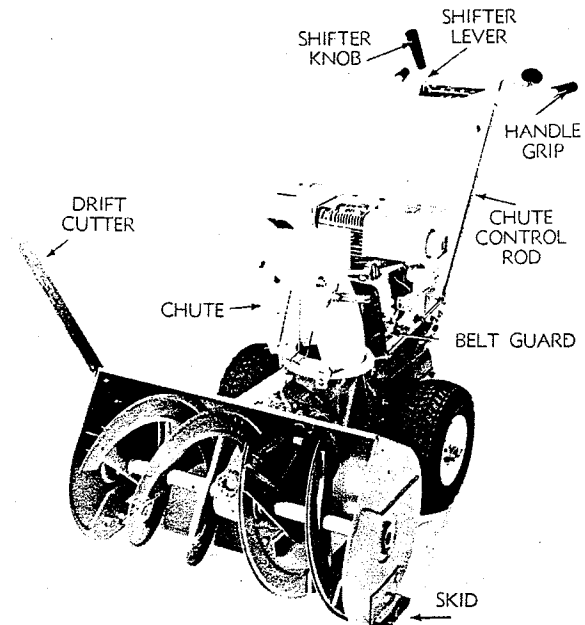

FIG. 3
2. Slide chute control rod through hole in top part of handle bar shroud (Fig. 3). Secure rod to universal with special stainless cotter pin (Fig. 2). (Red or blue).
4. Attach the skids (Fig. 3) to auger housing with carriage bolts, flatwashers, and hex nuts. Insert the carriage bolts from the outside in.
6. Attach knob to shifter control. (Fig. 3).
7. Attach drift cutter (Fig. 3) to snow thrower (especially for deep snow conditions). Be sure the slanted edge of the drift cutter is towards the front and that the capscrews go from the outside in.
This lever engages and disengages drive to the wheels as well as control direction and speed of travel. The shifter lever is located in top of handle bar shroud. (Fig. 3).
This rod is used to change the direction of snow discharge. It is located in the side of the handle bar. (Fig. 3). Turn knob clockwise or counter-clockwise for full 180° rotation of snow chute.
The deflector determines the distance snow is thrown. It is located on top of the snow chute. (Fig. 3). Moving top of the deflector down decreases the distance of throw and raising the deflector increases the distance of throw. The deflector can be simply moved by loosening the two wing nuts, adjusting and then retightening the nuts.
The skids (Fig 3), mounted on each side of the auger housing, adjust the distance the scraper blade is raised above the ground surface. When removing snow from a gravel or uneven surface, it is advisable to keep the scraper blade as high above the surface as possible to prevent possible damage to the auger. On a blacktop or concrete surface, keep the scraper blade as close to the surface as possible. To adjust skids, raise Snow Thrower a few inches off the ground and loosen the nuts securing the skids to the auger housing. Move skids up or down to desired position and tighten nuts securely. Adjust both skids to the same height to keep the auger level.
- A. Remove belt guard. (Fig. 3).